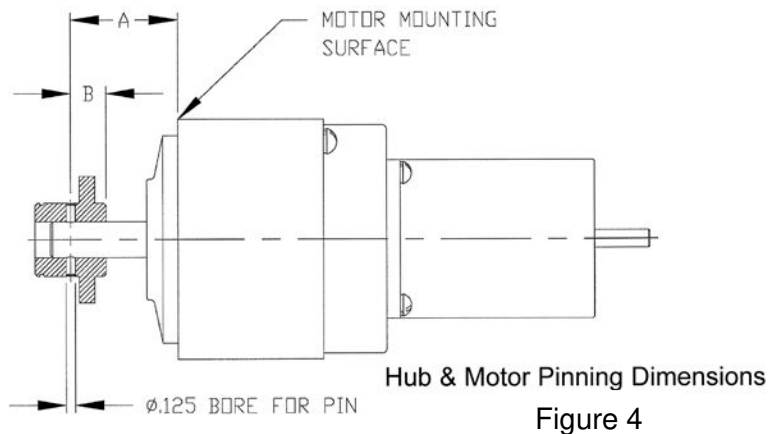

Figure 4
- 4 Using the dimensions in Table C, for your valve size, and Figure 4, drill a 0.125-inch diameter hole through the new motor shaft.